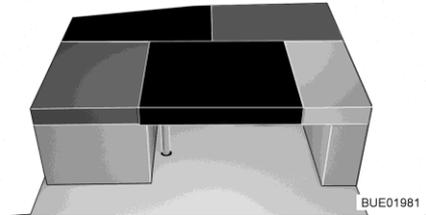

Fig. 164 After conversion
- Place the rectangular additional cushion on the table (between the seat cushion and the back cushion of the lateral seat, see Fig. 164).